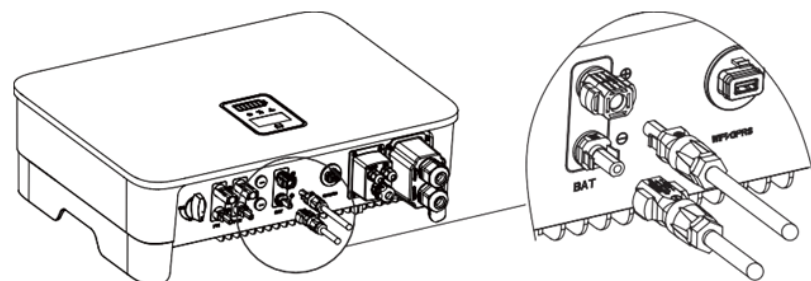

Figure 5-20
① Before making the battery connector, please make sure the polarity of the cable is correct.
② Use a multimeter to measure the voltage of the battery pack and make sure the voltage is within the inverter limitation and the polarity is correct.
⑥ Insert the positive and negative connector into the inverter battery terminals respectively, and a “click” sound represents the assembly in place, as shown in Figure 5-20: